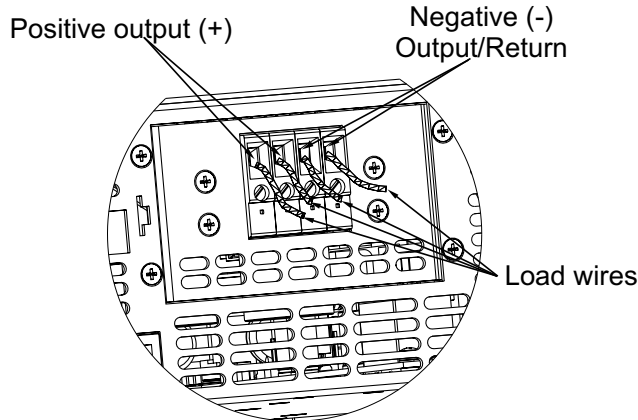

Fig.3-8: Load wires connection to the output connector
3. Insert the stripped wires into the terminal and tighten the terminal screw securely(see Fig.3-8)